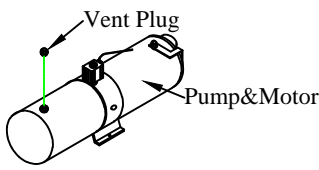

Figure 19: Vent plug.
2. **Unscrew** the solid plastic plug from the pump reservoir and **Install** the vent plug provided (Figure 19).